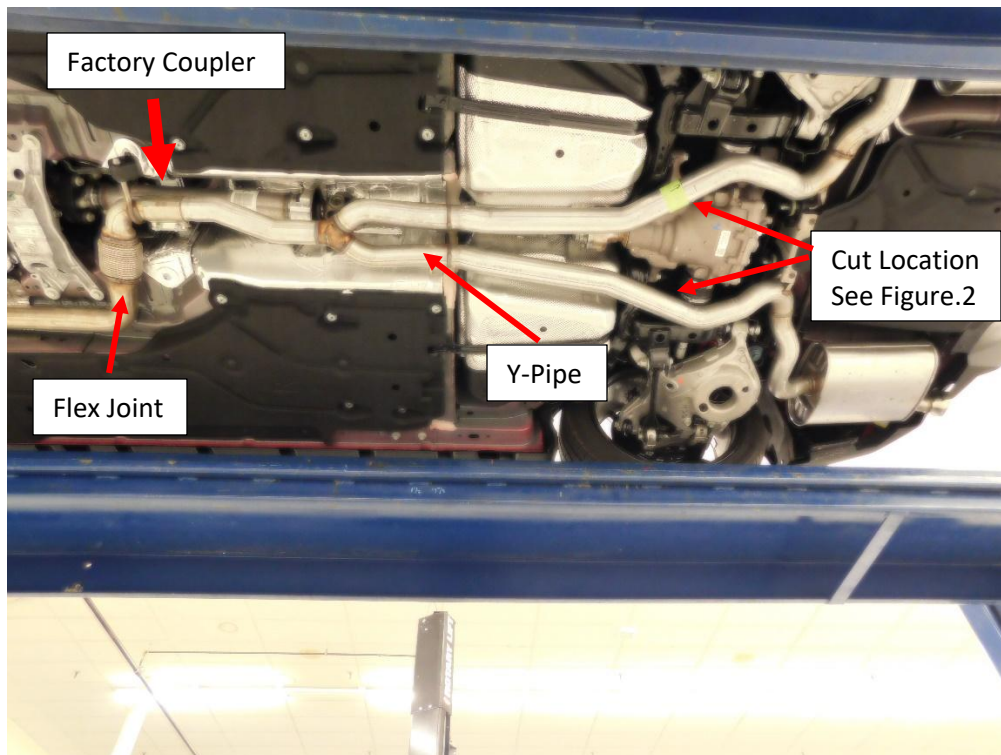

Figure.1
3. Loosen the 15mm nuts on the coupler at the flex joint and the factory Y-pipe inlet. **Fig.1**